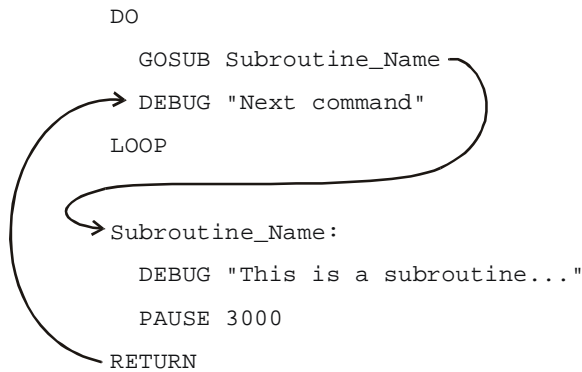

Figure 7-11
Figure 7-11 shows an example of a subroutine and how it's used. The command `GOSUB Subroutine_Name` causes the program to jump to the `Subroutine_Name:` label. When the program gets to that label, it keeps running and executing commands until it gets to a `RETURN` command. Then, the program goes back to command that comes after the `GOSUB` command. In the case of the example in Figure 7-11, the next command is: `DEBUG "Next command"`.
- ✓ Add the subroutine shown in Figure 7-11 on page 216 to SimpleSubroutines.bs2.